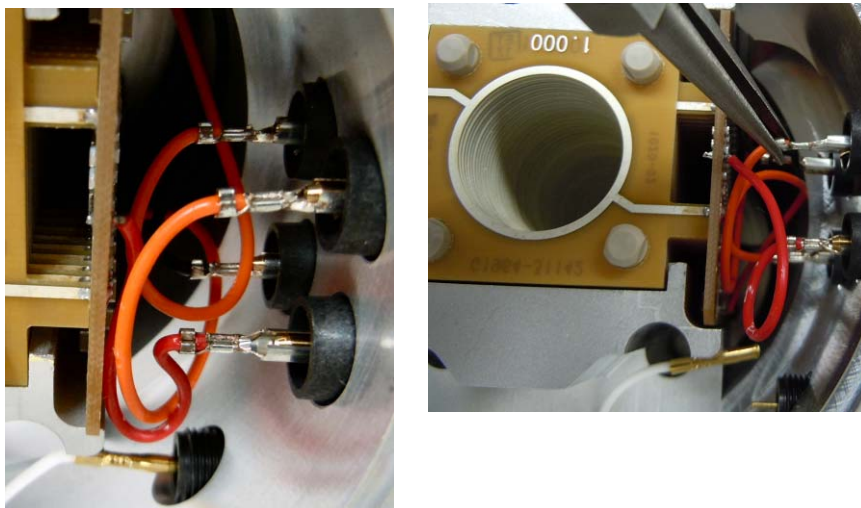

Figure 70 Five internal wires from the feed-through.
- 4** Disconnect the five internal wires from the feed-throughs. Use needle nose pliers. See Figure 70.